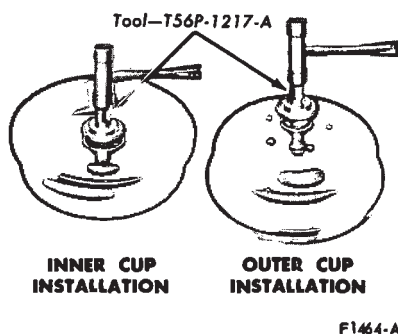

FIG. 5—Installing Front Wheel Bearing Cups—Drum
8. If the inner and/or outer bearing cup(s) were removed, install the replacement cup(s) in the hub with the tool shown in Fig. 5. **Be sure to seat the cups properly in the hub.**
11. Place the inner bearing cone and roller assembly in the inner cup. Apply a light film of grease to the lip(s) of the grease retainer and install the new grease retainer with the reverse end of the tool shown in Fig. 5. **Be sure that the retainer is properly seated.**
8. Place the inner bearing cone and roller assembly in the inner cup, and install the new grease retainer with the reverse end of the tool shown in Fig. 5. **Be sure that the retainer is properly seated.**